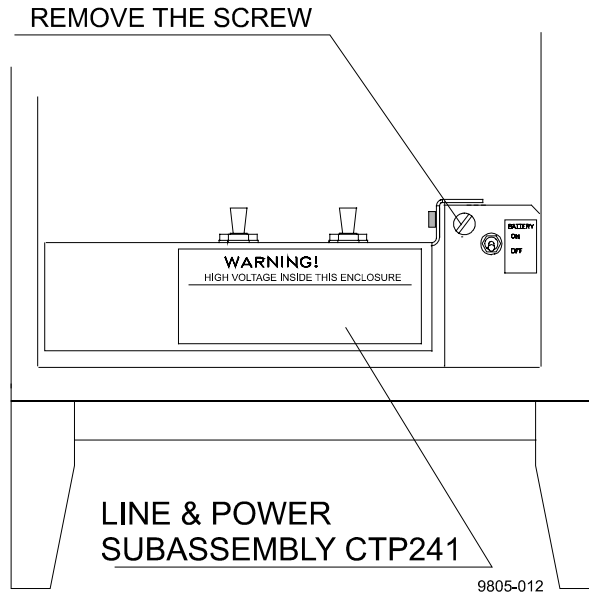

Figure 8-10 Battery replacement
1. Open the screw from the battery switch subassembly front panel shown in Figure 8-10 and remove the panel.